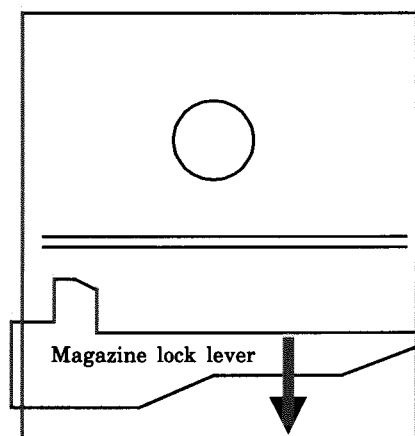

Fig12 Mech. top side
- (14) After inserting the turntable, bond the motor shaft and turntable together (at the section marked by an arrow in fig 12 on the left below).